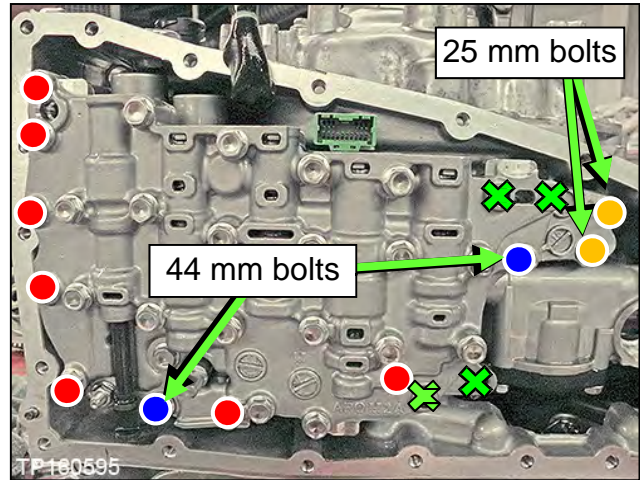

Figure 141
115. Install the Control Valve with eleven (11) mounting bolts (Figure 141).